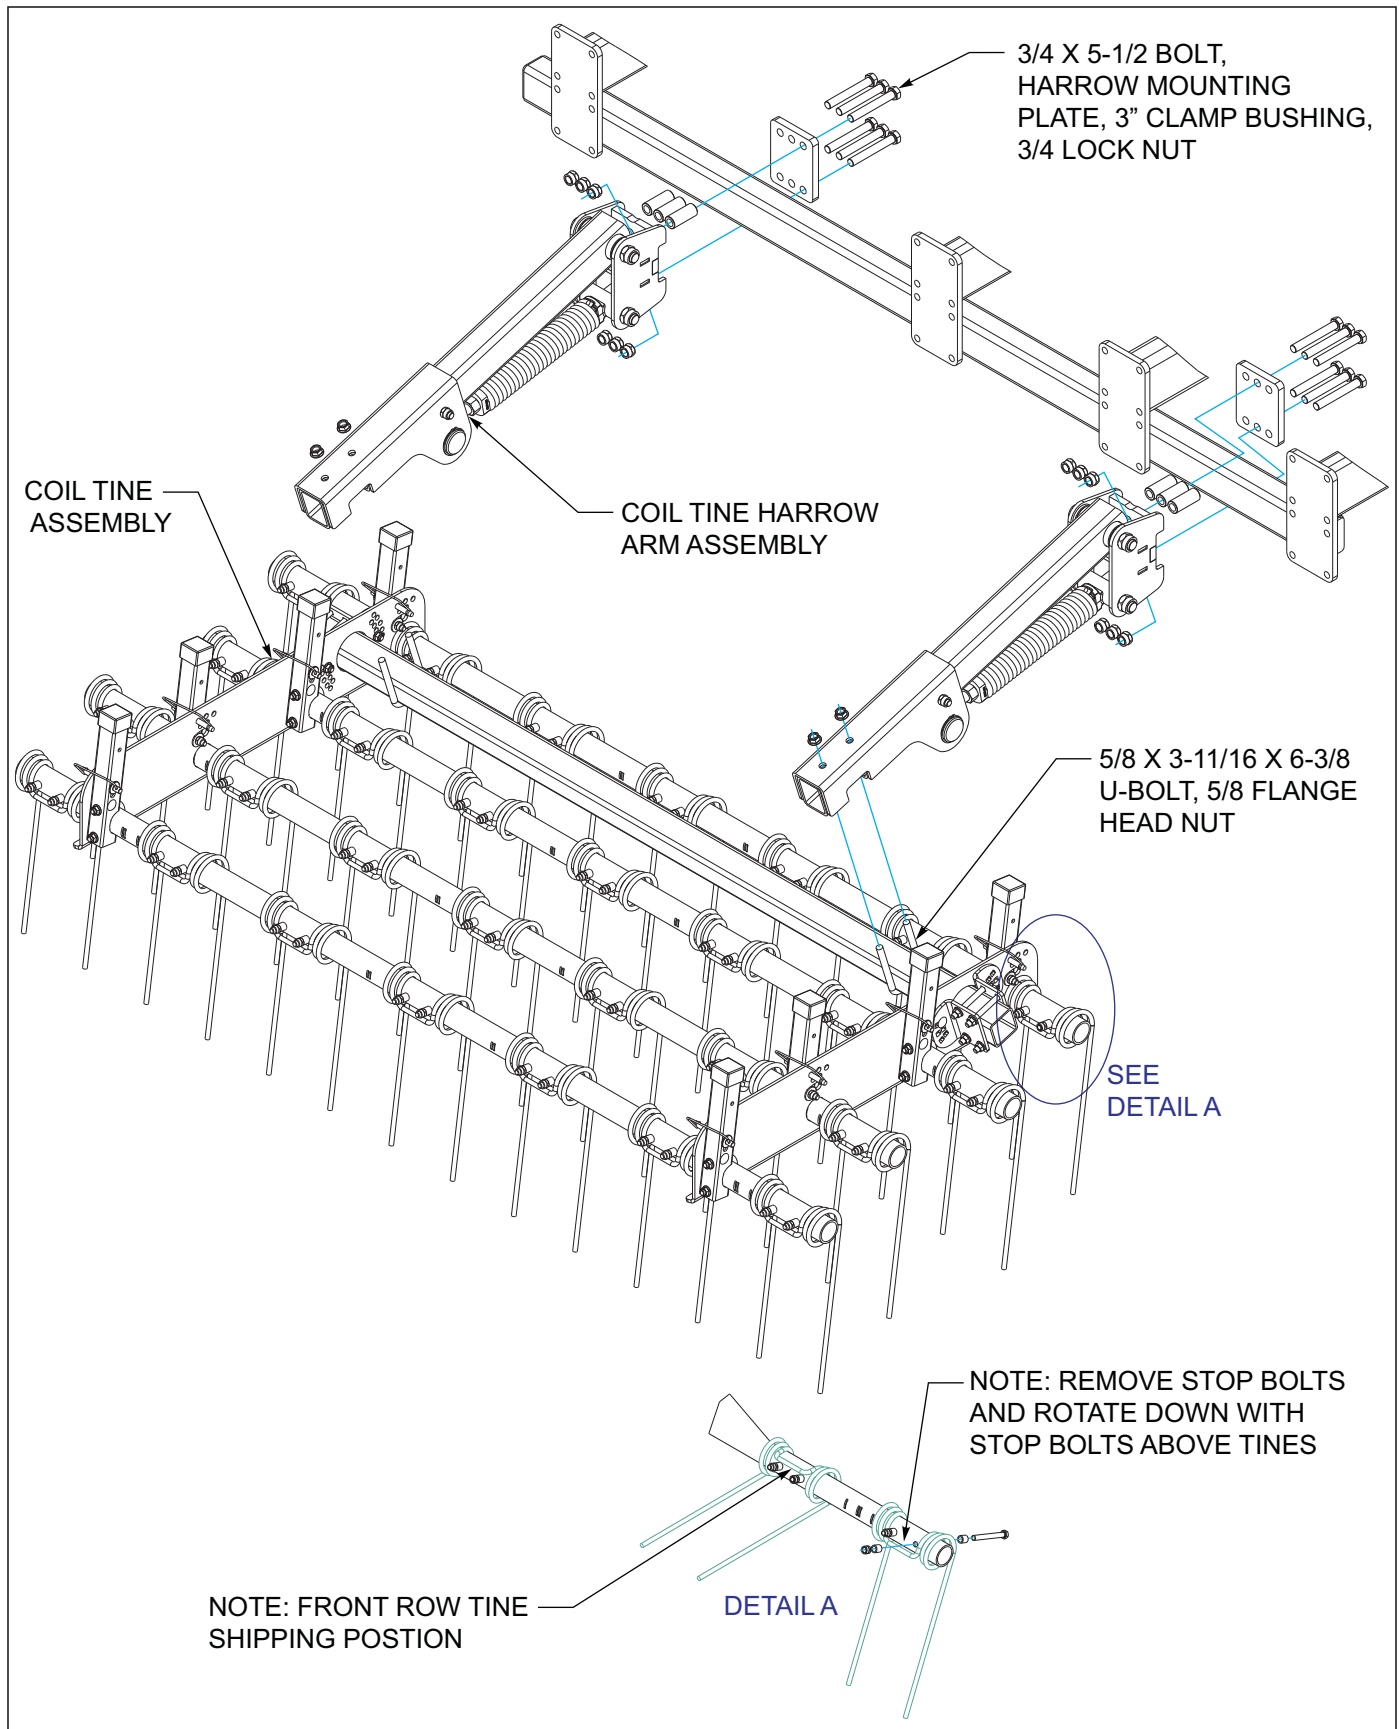

Figure 3-61: 4 Row Coil Tine Harrow Installation
1. Attach coil tine harrow arms to the rear of the field cultivator See Figure 3-61, according to placement dimensions. Clamp bushings are installed on the top mounting bolts.
3. Front row tines are assembled with the tines above the stop bolts to prevent damage when shipping See Figure 3-61 Detail A. Remove front tine bolts and reinstall, with stop bolts above tines.